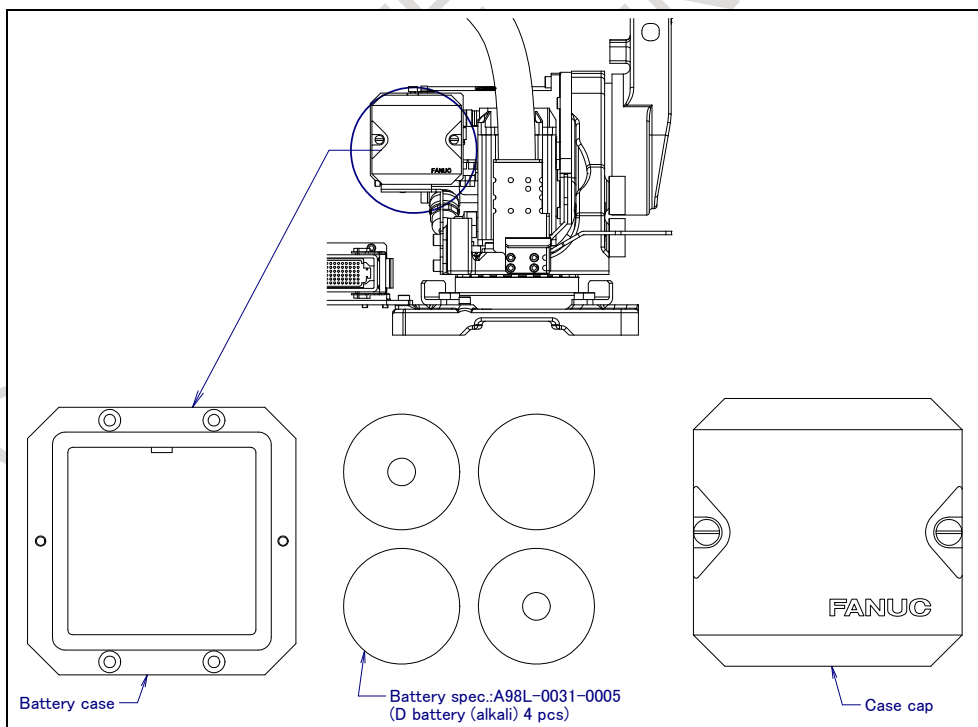

Fig. 2.1 (a) Replacing the battery
- 2 Remove the battery case cap. (Fig. 2.1 (a))